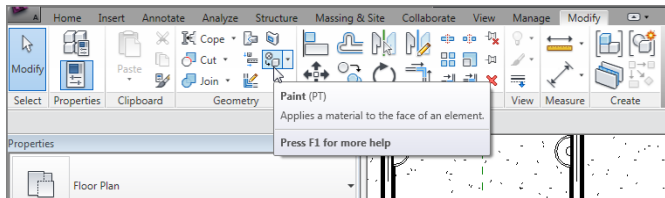

FIGURE 9.73: The Paint button
1. Click the Paint button on the Geometry panel of the Modify tab, as shown in Figure 9.73.